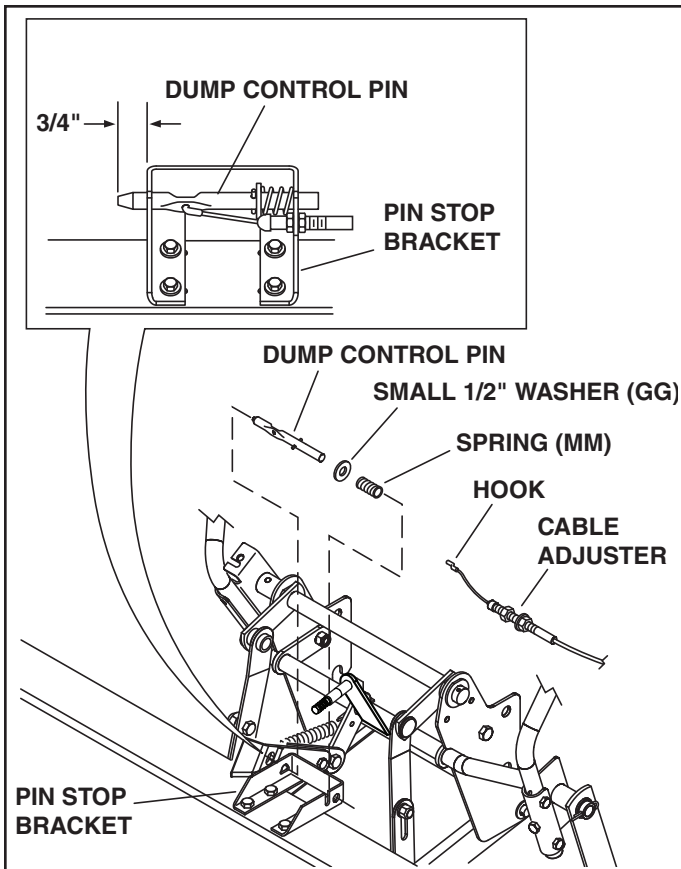

FIGURE 16
STEP 17: INSTALL DUMP CONTROL PIN (SEE FIGURE 16)
- Install a small 1/2" washer (GG) and then the short compression spring (MM) onto the dump control pin. Install the dump control pin into the pin stop bracket. Make sure the flat side of the pin faces to the front when finished.